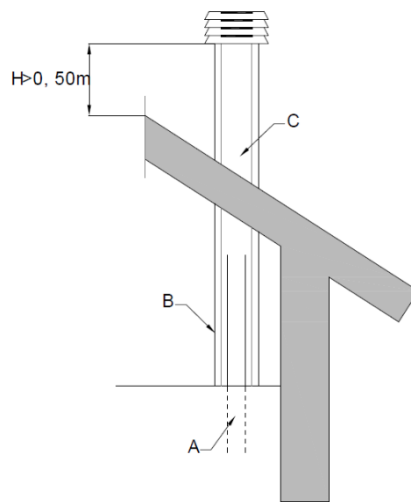

Figure 6.6: An example of connection to the chimney
In the case of the exhaust ducts of greater radius, there must be a steel pipe (A) within the funnel bricks or mortar (C), as shown in Figure 6.6.